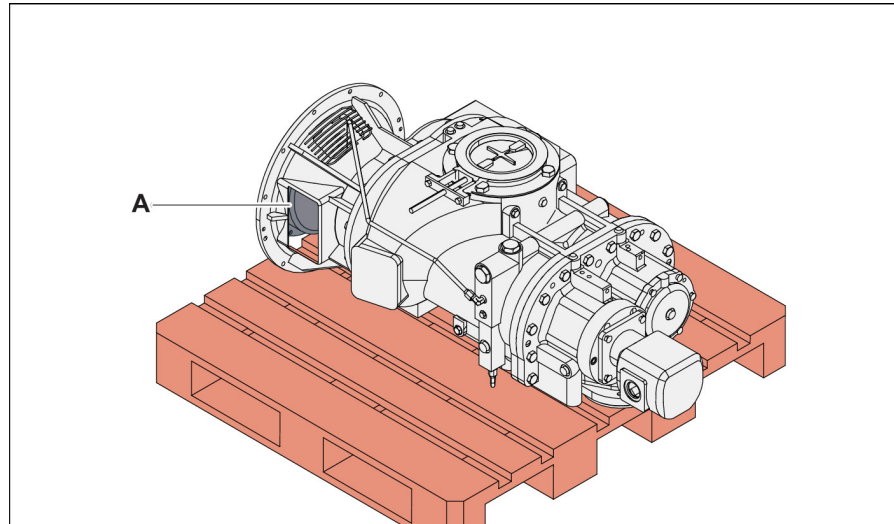

Figure 15
14. Starting at the top and working to the way down, move the flange (Figure 15, item A) back far enough to where it is flush with the back part of the coupling.